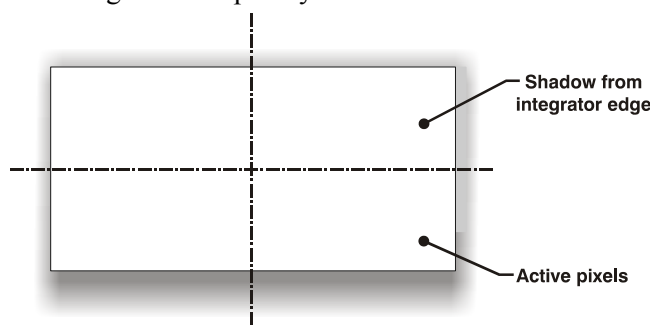

Figure 3-3 Centering Integrator
4. **Centering:** Confirm all shadowy edges cast by the integrator are projected OFF the screen, with the white field fully visible and centered between shadows (Figure 3-3). If necessary, use the fold mirror adjustment screws to precisely direct the white field between all edge shadows. Centering signifies that the rectangle of light passed from the integrator completely illuminates the DMDs.